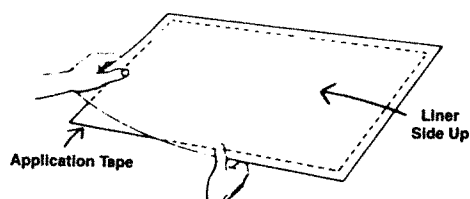

Figure 5
A. Strip application tape from roll and lay adhesive side up on table (Figure 5).